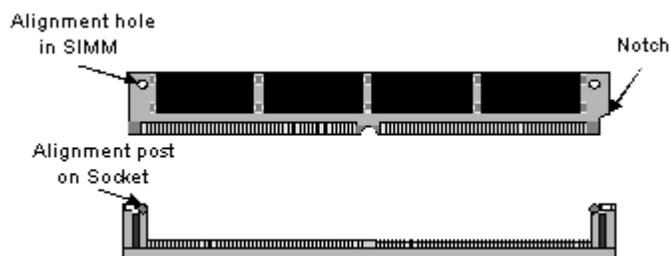
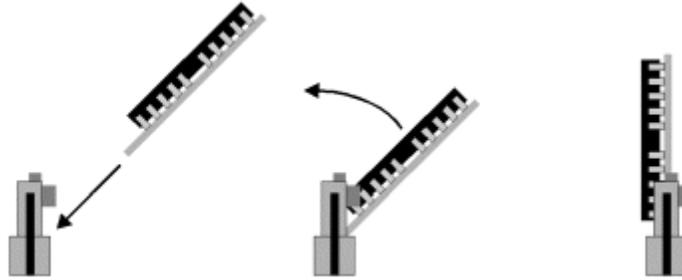

Figure 3-5: SIMM Module Installation
Figure 3-6: SIMM Module Installation – Side View
2. Carefully set the SIMM (as shown in Figure 3-5) into the appropriate socket at a 45 degree angle using both hands, tilting upwards (refer to Figure 3-6).